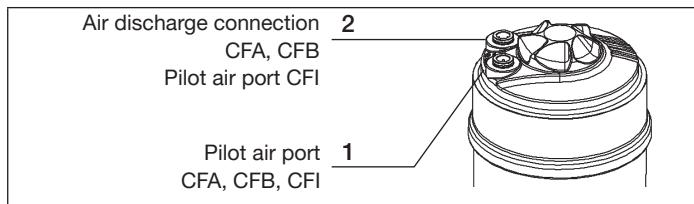

Fig. 6: Pneumatic connection
- Connect the control medium to the pilot air port 1 and 2 of the actuator (see "Fig. 6")